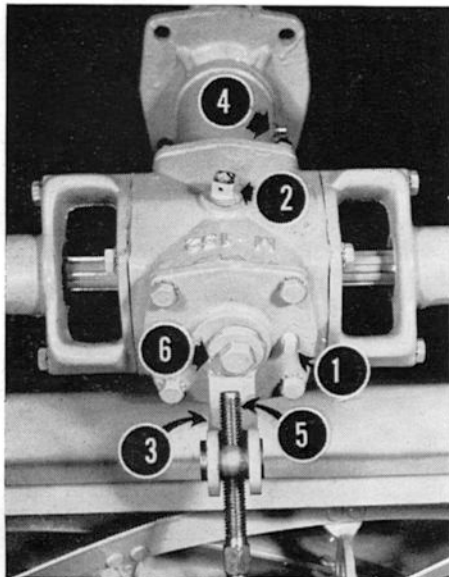

Figure 18
Check the Gear Housing oil level every four hours of operation by removing the Oil Level Plug, 1 in Figure 18. If oil runs out, the oil level is all right; if not, oil must be added.
To add oil, remove the Oil Filler Plug, 2 in Figure 18, and pour through the Oil Filler Hole until oil begins to run out the Oil Level Hole (too much oil will cause over-heating and consequent gear damage). Replace both Plugs before resuming mowing.
Change oil in the Gear Housing at least annually. To drain, remove the entire Strut Casting, 3 in Figure 18; replace after the oil has drained. Add oil as instructed above.
Use Mobilgrease MP occasionally in the grease fittings on the Swivel Casting, 4 in Figure 18, and as required in the grease fittings for the Reel Bearings, arrow in Figure 19. It is important to lubricate properly the Reel Bearings, as the grease forms a water seal around each Bearing, preventing rust. Use Mobilgrease MP as required in the grease fittings on the Roller Bar.
Turn the Height Adjusting Screw, 5 in Figure 18, clockwise to raise the cutting height; turn it counter-clockwise to lower the cutting height.
1. Loosen the bolt on the front of the Gear Housing, 6 in Figure 18.